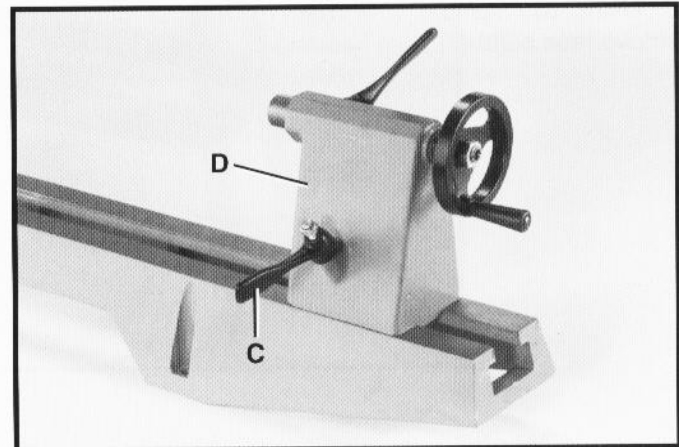

Fig. 15
8. Fig. 15, illustrates tailstock (D) mounted to lathe bed. Tighten locking lever (C).